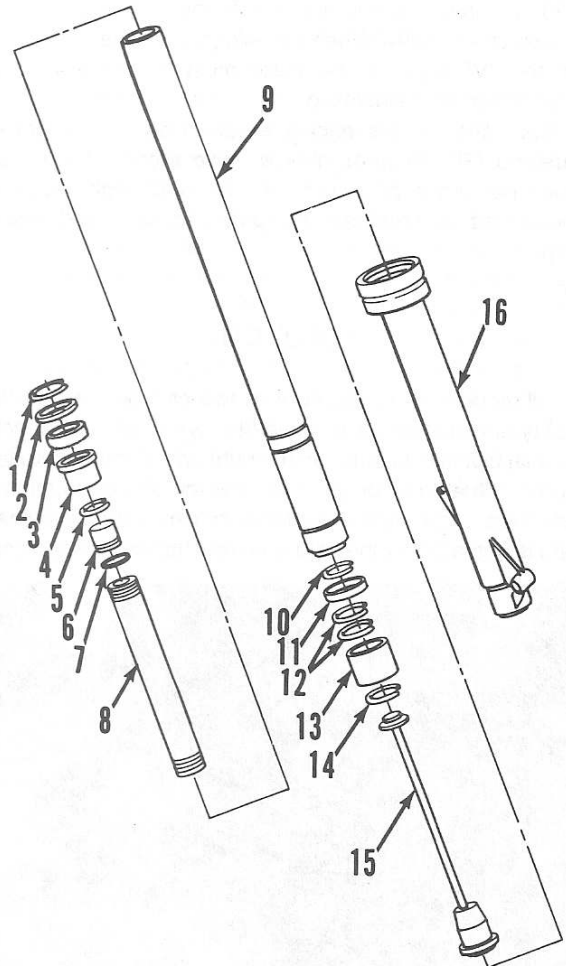
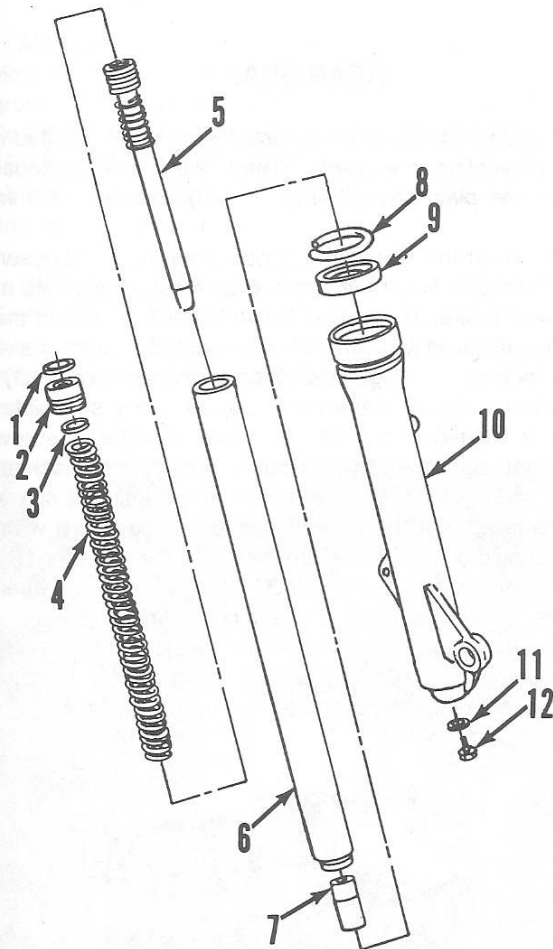

Fig. Y6-16—Exploded view of front fork assembly used on 200 cc models.
Fig. Y6-17—Exploded view of front fork assembly used on 225 cc models.
To drain oil from fork leg, remove cap at top of fork leg, push down spring seat (6—Fig. Y6-16 or 2—Fig. Y6-17) and detach the circlip retaining the spring seat. Remove the spring seat and pour out the fork oil (note that fork spring may fall out when fork leg is inverted).
OVERHAUL. Refer to Fig. Y6-16 and Y6-17 for an exploded view of fork assembly. To disassemble fork leg, remove fork leg and drain oil as outlined in previous section. On 200 cc models, remove snap ring (1—Fig. Y6-16) and washer (2), then using a suitable tool remove oil seal (3). Pull out inner fork tube to disassemble remainder of components. On 225 cc models, unscrew retaining screw (12—Fig. Y6-17) and withdraw inner fork tube. Remove retaining ring (8) and pry out oil seal while being careful not to damage surrounding metal.
Note when reassembling fork assembly that small diameter end of fork spring on 200 cc models should contact top of damper rod (15—Fig. Y6-16). On 225 cc models, install fork spring (4—Fig. Y6-17) so close wound end is towards spring seat (2). Apply Loctite to retaining screw (12) and tighten to 23 N·m (17 ft.-lbs.). Fill with oil as outlined in previous section.